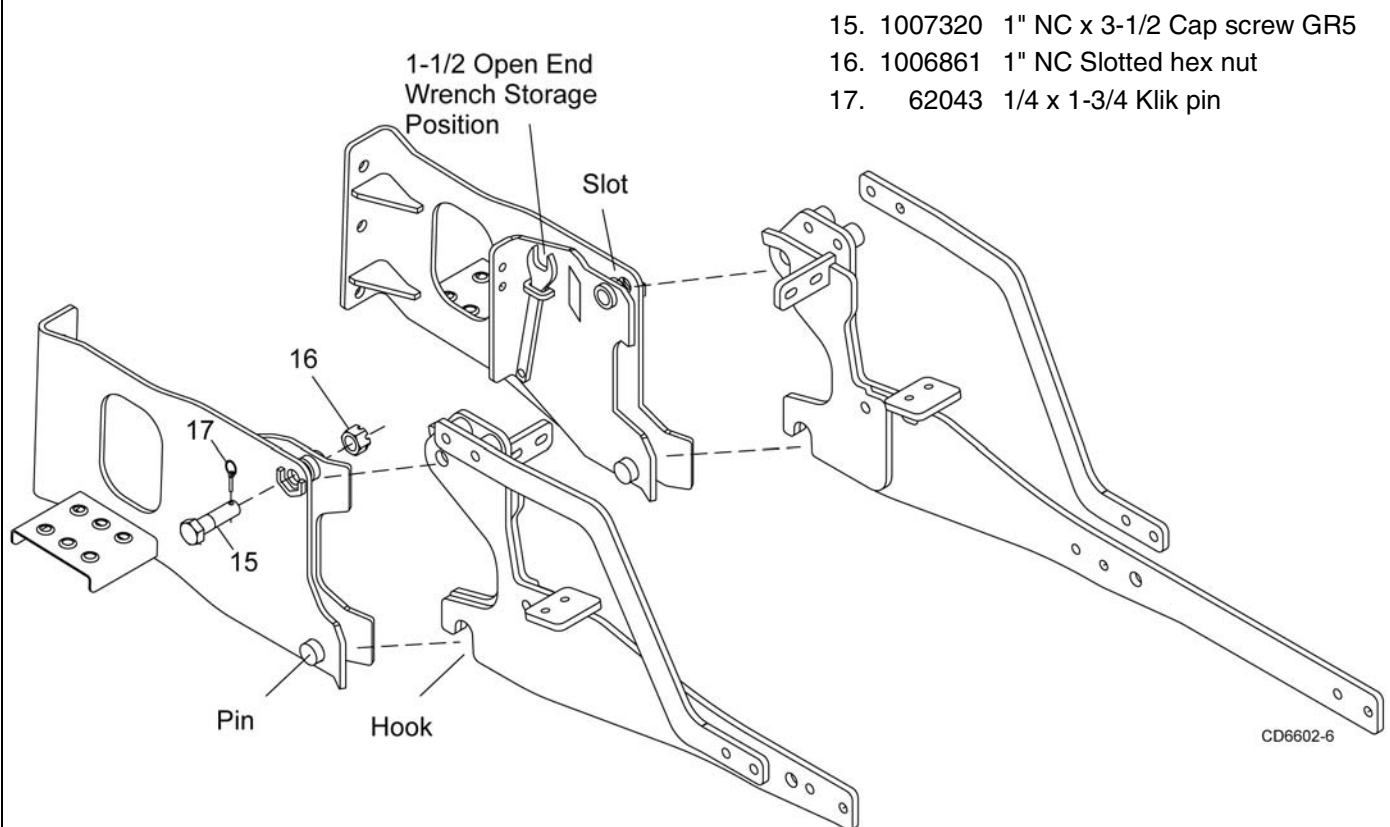

Figure 26. Backhoe to Tractor Installation
Refer to Figure 26.
10. Install cap screws (15) and slotted hex nuts (16). Tighten with 1-1/2 inch open end wrench provided with kit. Return wrench to storage position (see Figure 26).
11. Secure hex nut into position with klik pin (17).
6. Use 1-1/2 inch open end wrench supplied with the mounting kit to remove hex nuts. Return wrench to storage position (see Figure 26).